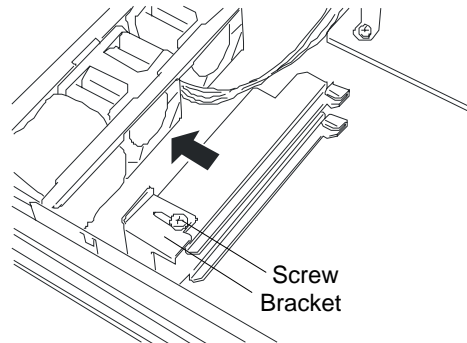

Figure 4-27. Adjusting the Board Bracket
5. To install a long card, loosen the set screw and slide the board retainer bracket towards the front of the PCI module., and secure it with the set screw. See Figure 4-27.